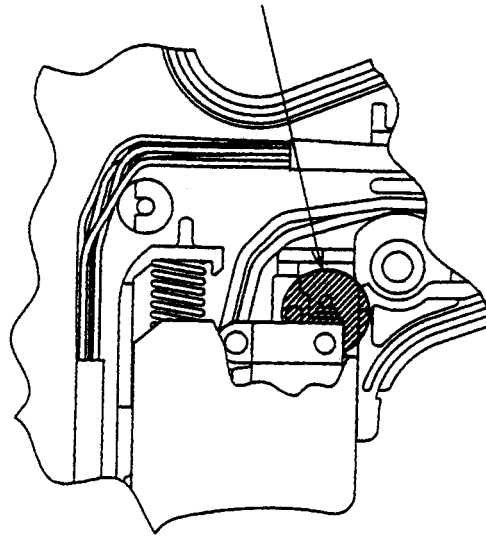

Fig. 22
- Apply grease (ATTOLUB No. 2) (Code No. 317918) to the areas shown in Fig. 22.